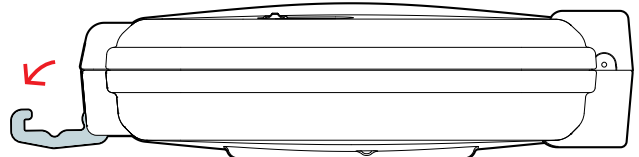

Figure 10: Move the latch
2. **Move the top of the latch off the latch rail** (Figure 10).